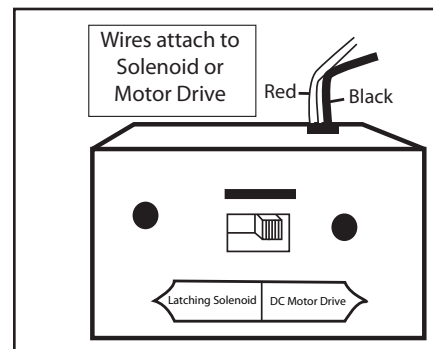

Fig. 12 Battery Pack Switch
3. The AFVK-SP-H/L & AFVK-SP-MH/L has (2) 8-inch wires (Red & Black) already connected to the Hi/ Lo solenoid (See Fig. 12).
AFVK-SP-H/L-SPLIT the battery pack switch must be set to **LATCHING SOLENOID** position to operate the HI/LO solenoid. This switch is located on the face of the battery pack (See Fig. 12).
AFVK-SP-MH/L-SPLIT the battery pack switch must be set to **DC MOTOR DRIVE** position to operate the HI/LO feature of the DC Motor Drive. This switch is located on the face of the battery pack (See Fig. 12).